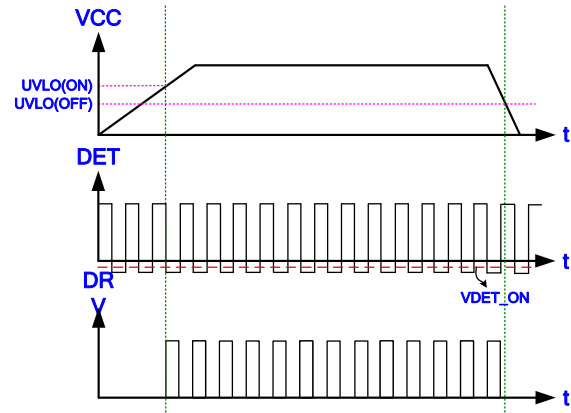

Fig. 15
An UVLO comparator is implemented in it to detect the voltage on the VCC pin. It will assure the supply voltage enough to turn on the LD8526U/UP controllers and further to drive the synchronous rectifier. As shown in Fig. 15, the UVLO(ON) and UVLO(OFF) are 3V and 2.8V respectively.